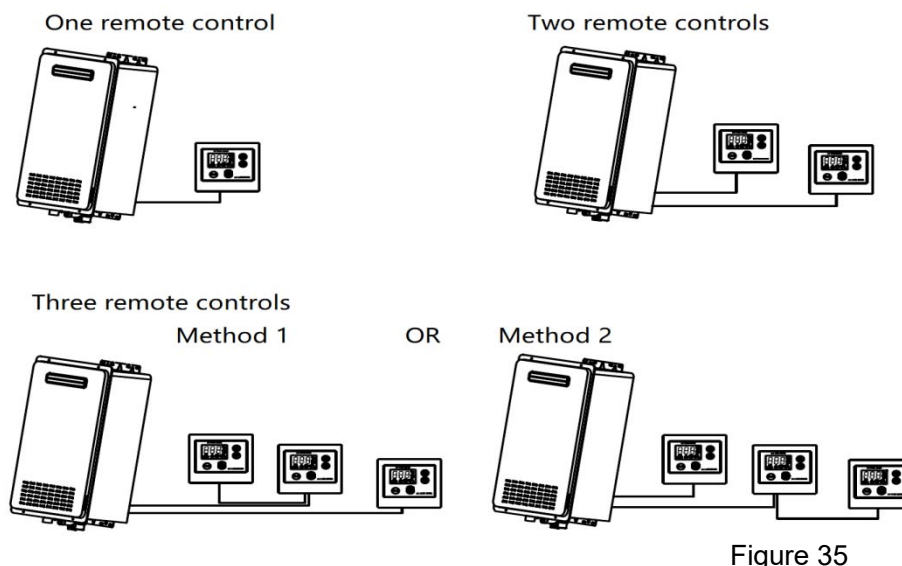

Figure 35
5. A single ONSEN water heater is capable of connecting with a maximum of 3 remote control units installed at any one time. Controlling priority can be reassigned to any one of the remote controls. The installation is parallel connection regardless of polarity as shown in Figure 35.